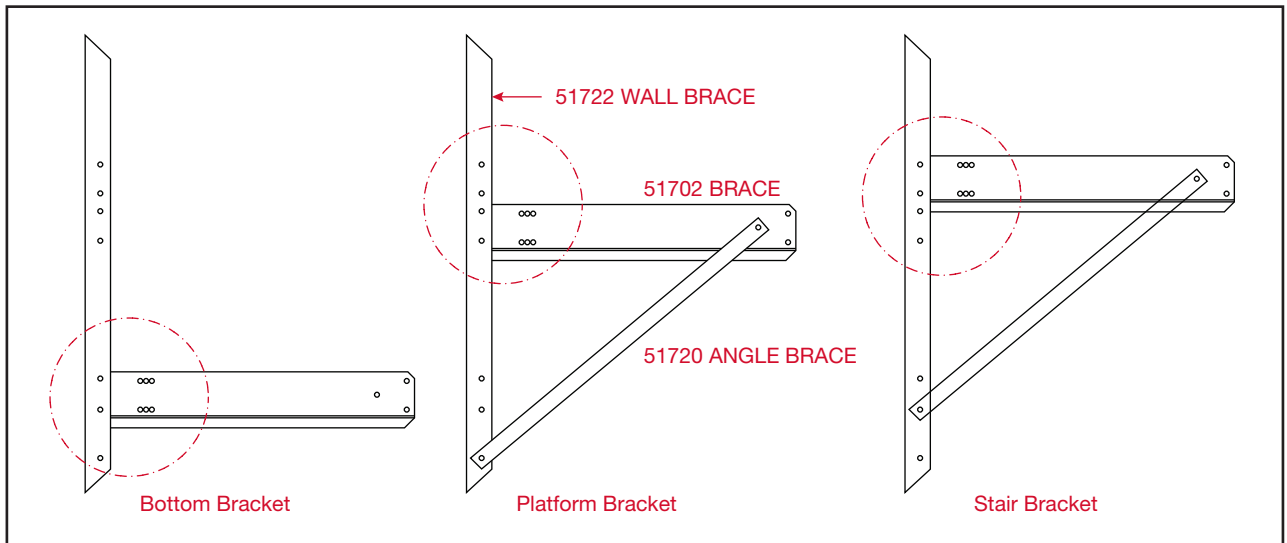

Fig 4 - Assemble A-Frames
3. Platform A-frame wall brackets should be assembled like the platform layout shows in Figure 4.
- For assembly, see the A-frame drawing, see Figure 4.